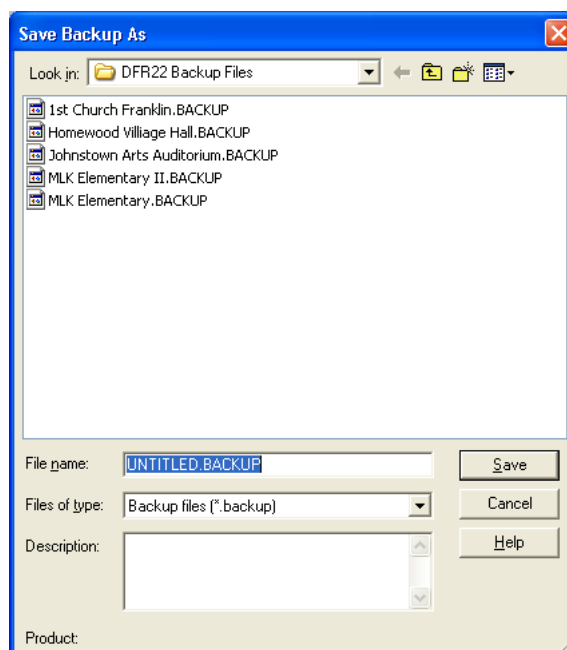

FIGURE 4-6: “Save Backup As” Dialog
5. The “Save Backup As” dialog appears, as pictured below on the right in Figure 4-6.
3. The “Open Backup” dialog will appear, similar to the “Save Backup As” dialog pictured on the right in Figure 4-6.